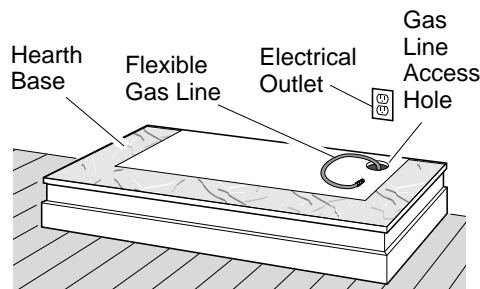

Figure 21 - Placing Hearth Base Accessory Against Wall
- When installing blower, install a properly grounded, 120 volt three-prong electrical outlet at fireplace location if an outlet is not there. If possible, locate outlet so cabinet mantel will cover it when installed (see Figure 21).
- Place hearth base accessory against wall at installation location. Cut an access hole in hearth top to run flexible gas line to fireplace (see Figure 21). Make sure to locate access hole so cabinet mantel will cover it when installed. *Note:* You can secure base to floor using wood screws. Countersink screw heads and putty over.